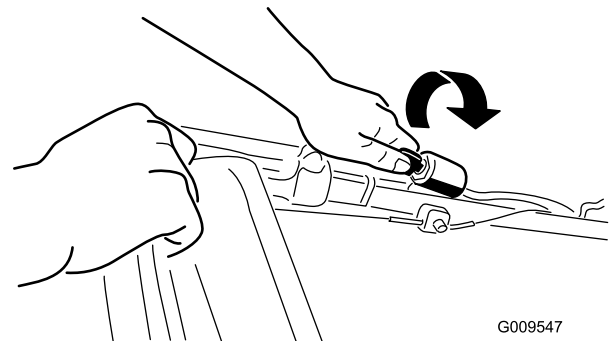
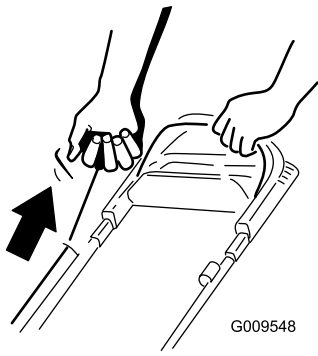

Figure 11
Figure 12
2. Turn the ignition key (Figure 11) (electric-start models only) or pull the recoil start handle (Figure 12).
- Note:** When you pull the recoil start handle, pull it lightly until you feel resistance, then pull it sharply (Figure 12). Allow the rope to return to the handle slowly.